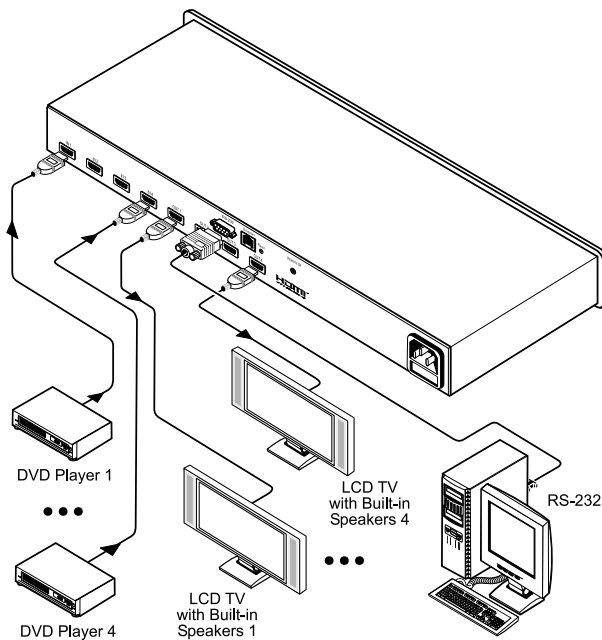

Figure 2: Connecting the VS-44HDMI 4 x 4 HDMI Matrix Switcher
To connect the **VS-44HDMI**, as the example in *Figure 2* illustrates, do the following¹:
4. Connect the power cord (not shown in *Figure 2*).